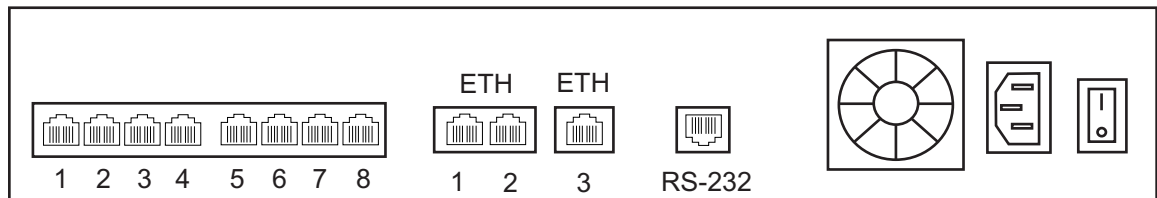

Figure 2.4
1. Start with port 1 located at the top and left-most position. Connect one cable between this port and the T1/E1/J1 line (figure 2.4 on page 11).